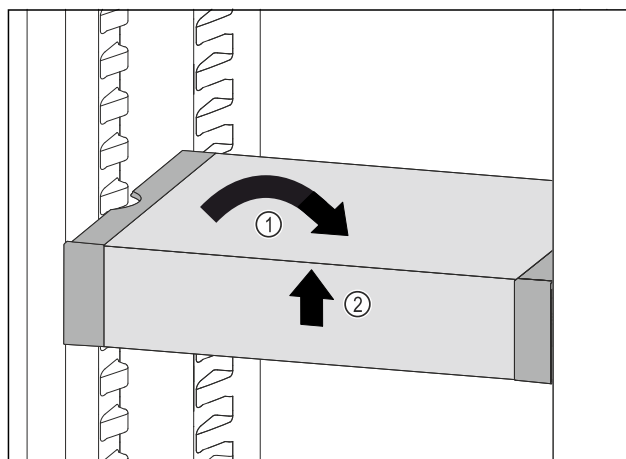

Fig. 91
- Set VarioSafe straight. *Fig. 91 (1)*
- Lift VarioSafe at the front. *Fig. 91 (2)*